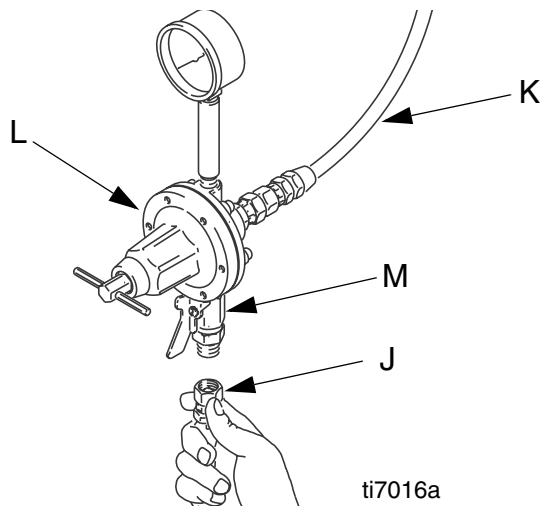

FIG. 8: Connect Fluid Hose.
- Install a fluid regulator (L) on the fluid line to control fluid pressure to the gun. See FIG. 8.
- Install a fluid shutoff valve (M) to shut off the fluid supply to the gun.